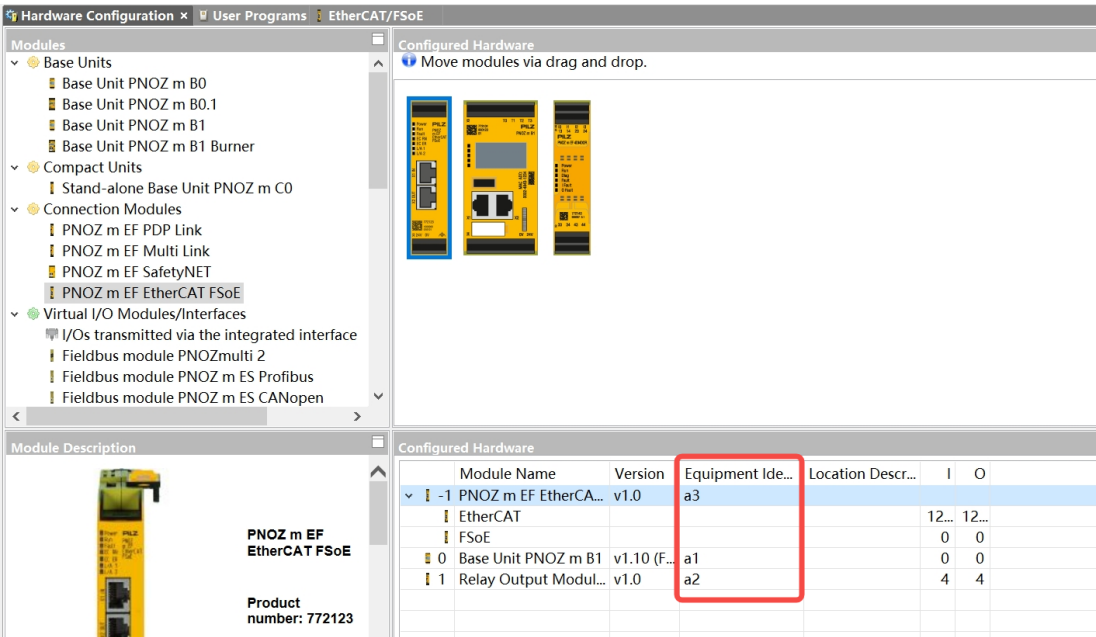

Figure 14-23 Default device ID
- f. To facilitate user program writing, it is recommended to modify the device ID in the configured hardware list at the bottom of the interface, as shown in “Figure 14-23 Default device ID” on page 646 and “Figure 14-24 Modify device ID” on page 646.